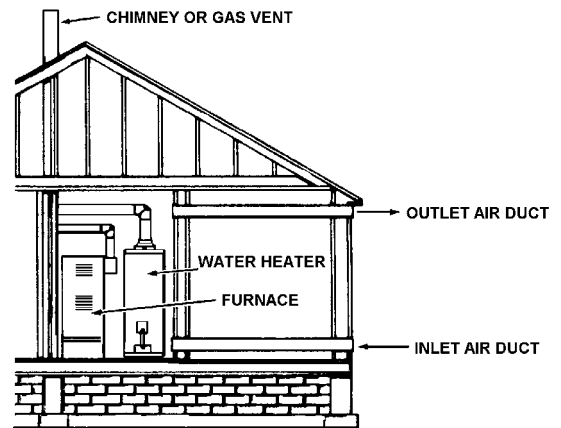

FIGURE 8.
3. When communicating with the outdoors through horizontal ducts, each opening shall have a minimum free area of 1 square inch per 2,000 Btu per hour (11 cm²/kW) of total input rating of all equipment in the enclosure, see Figure 8.
4. When ducts are used, they shall be of the same cross-sectional area as the free area of the openings to which they connect. The minimum short side dimension of rectangular air ducts shall not be less than 3 inches (76.2 mm), see Figure 8.